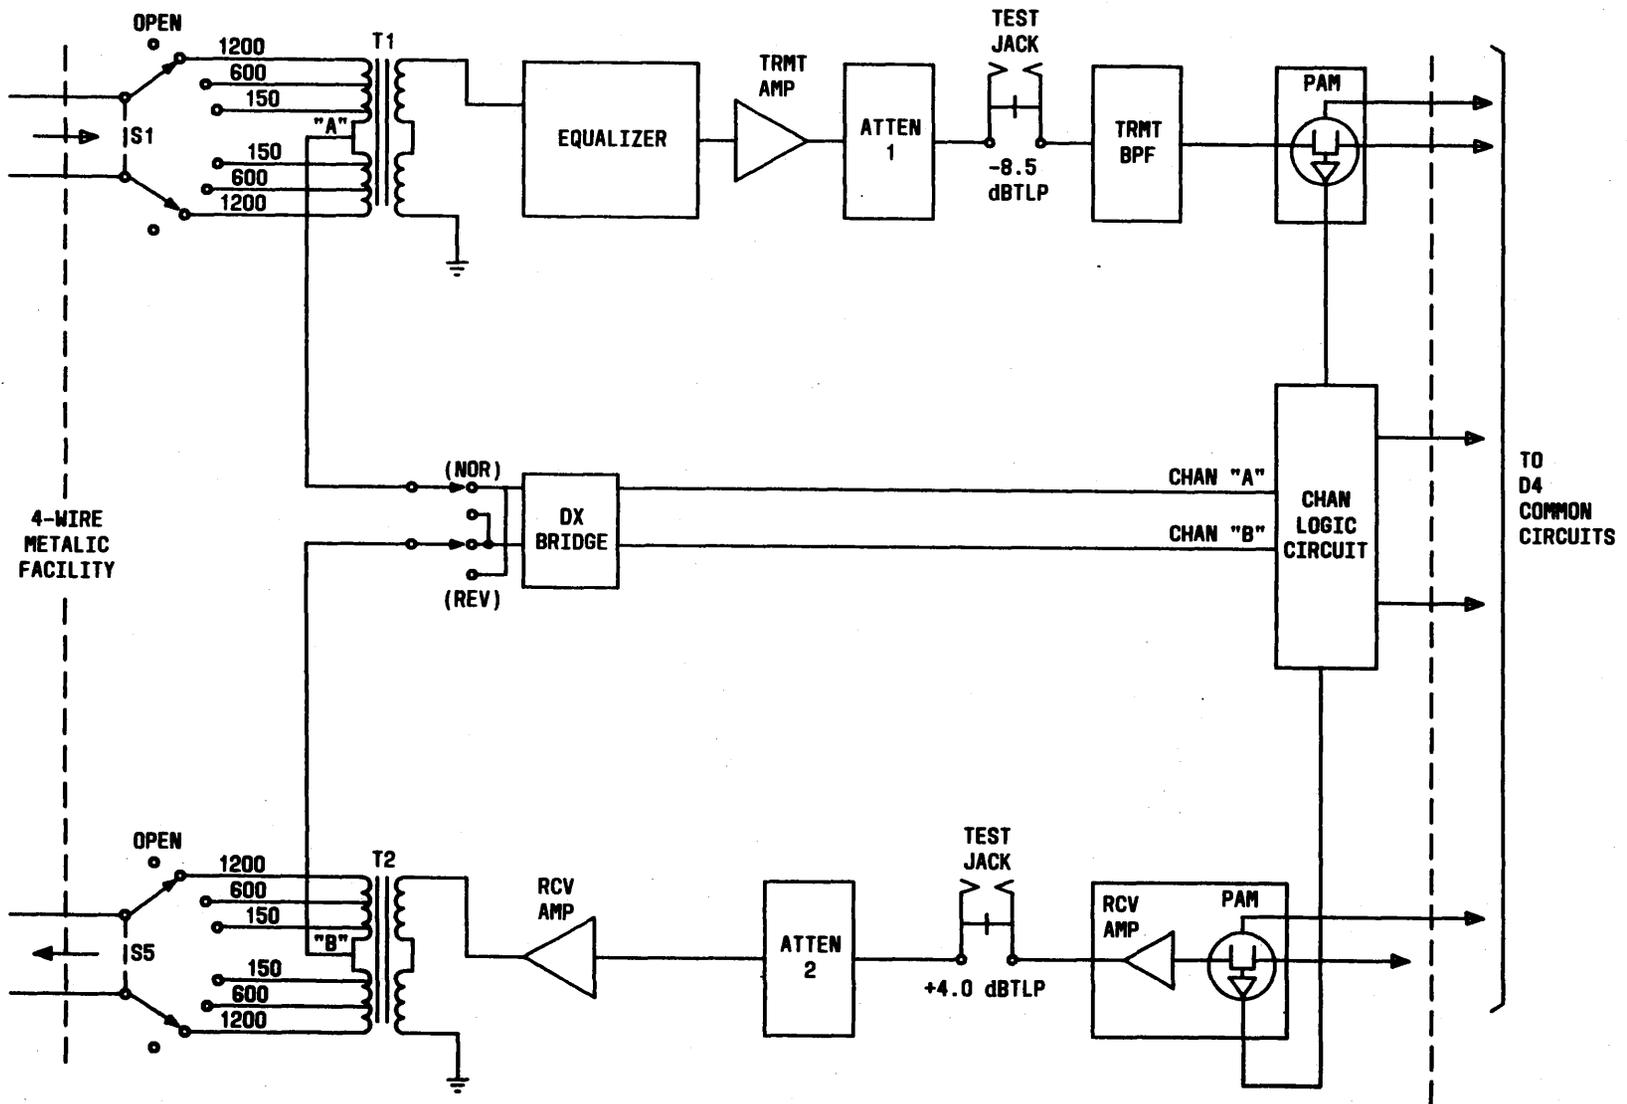

Fig. 5—4DX Transmission Paths
2.13 4-Wire Duplex: The 4-wire metallic facility connects to the 4-DX channel unit via the line impedance matching transformers T1 and T2 (Fig. 5). Switches S1 and S5 have four positions: open, 150 ohms, 600 ohms, and 1200 ohms. The open position disconnects the lines from the transformers. The 1200-ohm position is used when the unit is connected to loaded cable. The 600-ohm position is used when the unit is connected to nonloaded cable, and the 150-ohm position is used when the unit is connected to long lengths of nonloaded cable with V4-type equipment at the far end.